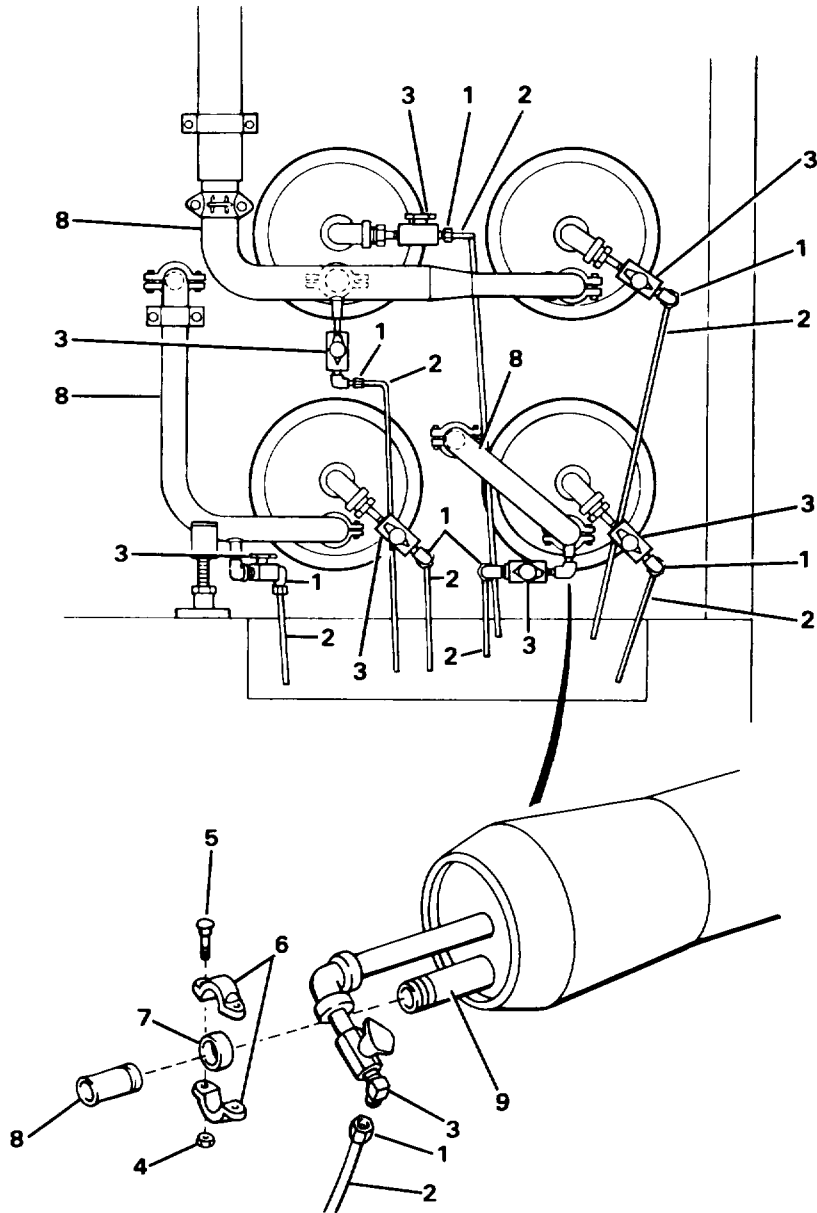
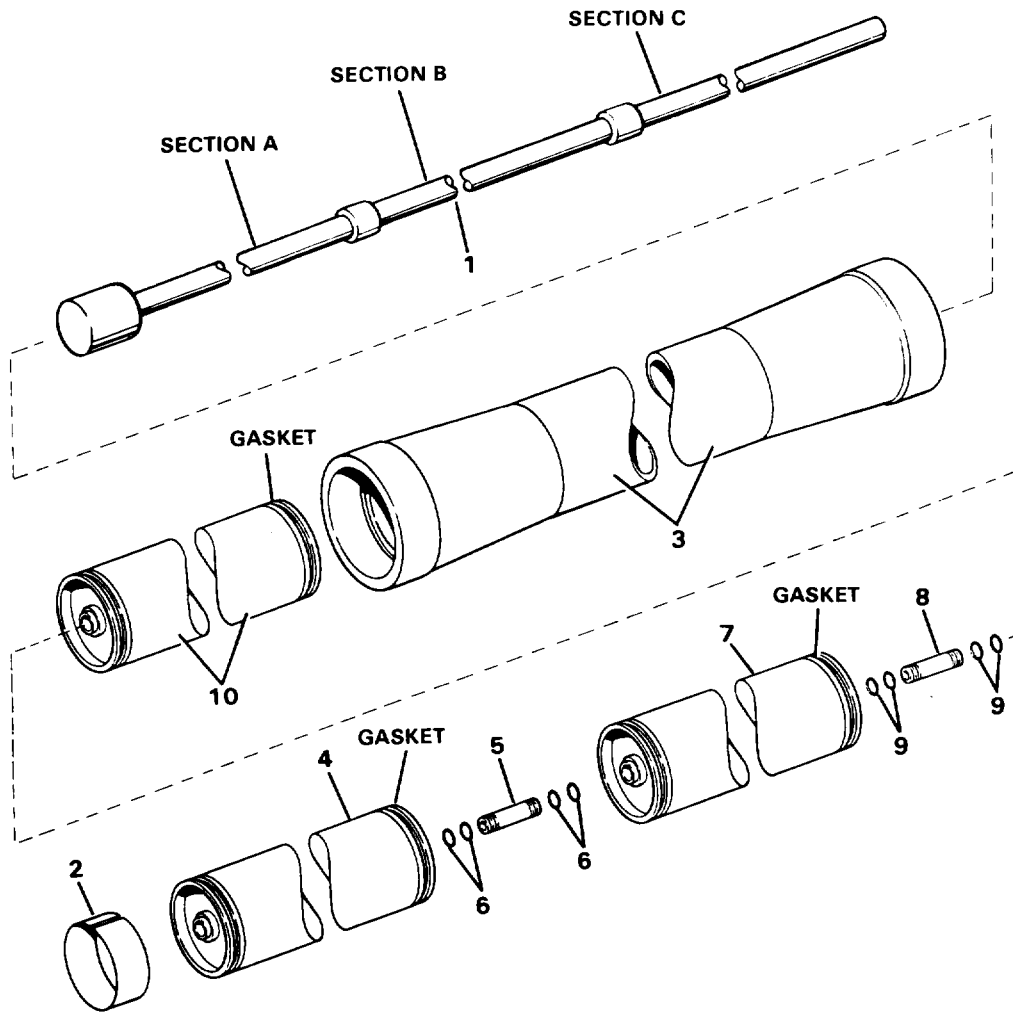

Figure 3-15. Piping and Drain Valves
Figure 3-16. RO Element Removal
l. Install clamp (6, Figure 3-15) on port (9) and use wood block as a pry bar to loosen the cap head assembly by prying against clamp and edge of vessel.
s. Loosen nuts (1, Figure 3-15) from drain valves (3). Remove the drain tube (2).
t. Remove the four nuts (4) and capscrews (5) from two clamps (6) of upper vessel. Remove the clamps and gasket (7). Reassemble clamps.
v. Disconnect RO piping (8) from RO vessels and move piping out of the way of RO vessel end.
- When using RO element pusher (1, Figure 3-16) to remove RO elements, DO NOT shove elements forward with extreme force or rapid movement. It may cause serious injury to crew member at access port on generator end of RO vessels.
x. Using only section A of RO element pusher (1, Figure 3-16), slowly push RO elements toward access port. Stop pushing when spacer (2) reaches end of RO vessel (3). Remove spacer.
- y. Continue pushing until first element (4) can be removed. Remove RO element (4).
- z. Remove interconnector (5) and four preformed packings (6).
- aa. Add section B to RO element pusher and remove second element (7). Remove interconnector (8) and four preformed packings (9).
- bb. Add section C to RO element pusher and remove third element (10).
- a. Install spacer (2, Figure 3-16) into end of RO vessel (3).
- t. Secure access panel with 1/4 turn latch screws (4).
- u. Push gasket (2) into adapter (6) and secure with threaded cable retainer (1).
- v. Making certain that RO element ends without gaskets go in first, insert first RO element (4, Figure 3-16) into RO vessel (3), leaving gasket extended from end of vessel. Lubricate gasket with glycerin.
- w. Install four preformed packings (6) onto interconnector (5) and lubricate preformed packings (6) with glycerin.
- x. Insert interconnector (5) into RO element (7) (at end without gasket) and push until interconnector bottoms out in RO element.
- y. While holding RO element (4) in place, insert interconnector (5) into end of RO element (4). Push RO element (7) into vessel (3) leaving gasket extended from end of vessel. Lubricate gasket with glycerin.
- z. Install four preformed packings (9) into interconnector (8) and lubricate preformed packings (9) with glycerin.
- aa. Insert interconnector (8) into RO element (10) (at end with gasket) and push until interconnector bottoms out in RO element.
- ab. While holding RO element (10) in place, insert interconnector (8) into end of RO element (7). Push RO element (10) into vessel (3), leaving gasket extended from end of vessel. Lubricate gasket with glycerin.
- ac. After lubricating gasket, push RO element (10) into vessel (3) until assembled elements bottom out.
- af. Lubricate gasket (7, Figure 3-15) with glycerin and position gasket on lower ports (9) with top half of clamp (6).
- ag. Position lower piping (8) on lower ports (9).
- ah. Install bottom half of clamp (6) around gasket (7) making certain that clamp halves fit into grooves. Secure with capscrews (5) and nuts (4).
- aj. Reconnect drain tubes (2) to drain valves (3, Figure 3-15), as tagged during removal procedure.
- ak. Connect each drain tube to fittings on drain valves and secure with nuts (1, Figure 3-15) at end of tubing.